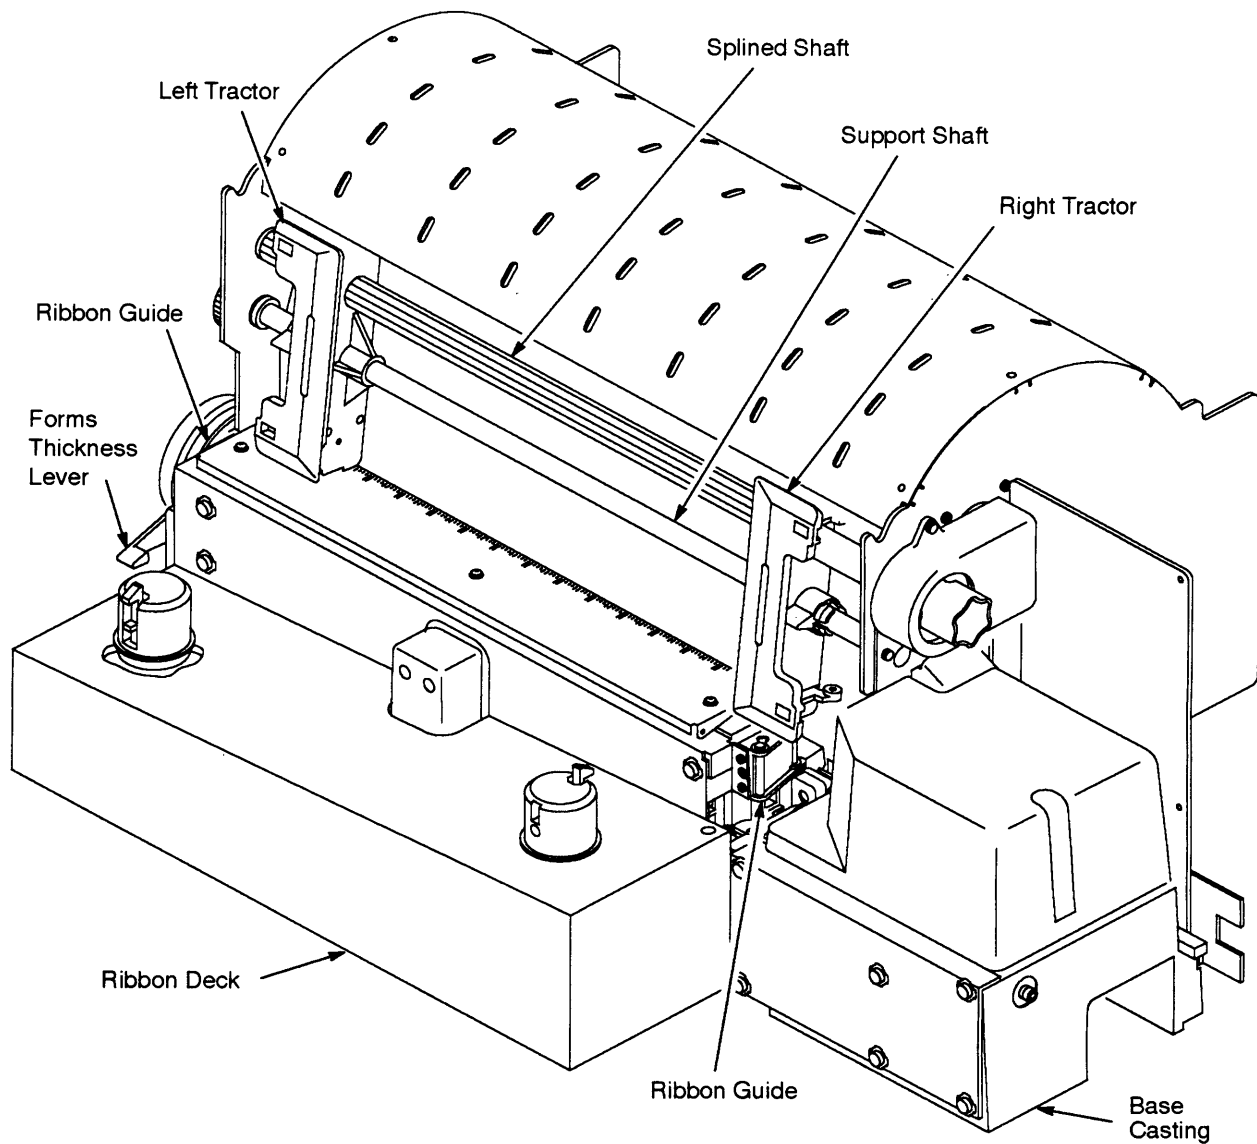

Figure 4-1. Cleaning Interior of Cabinet
7. Raise the forms thickness lever all the way. (See Figure 4-1.)